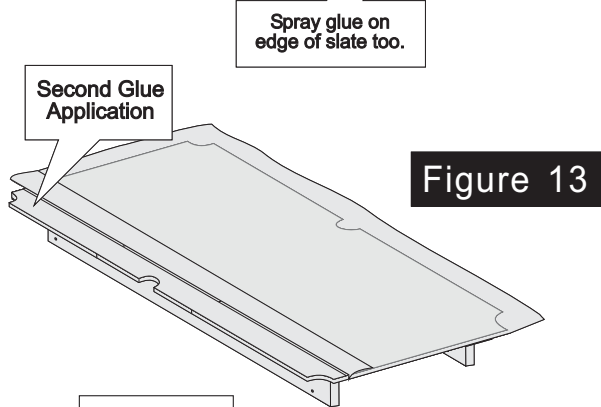

Figure 13
33. Fold cloth away from side to expose slate/slatron for your second glue application. (See Figure 13). Apply cement to the side in the same manner as your first glue application. Allow cement to become tacky, wait at least one minute.